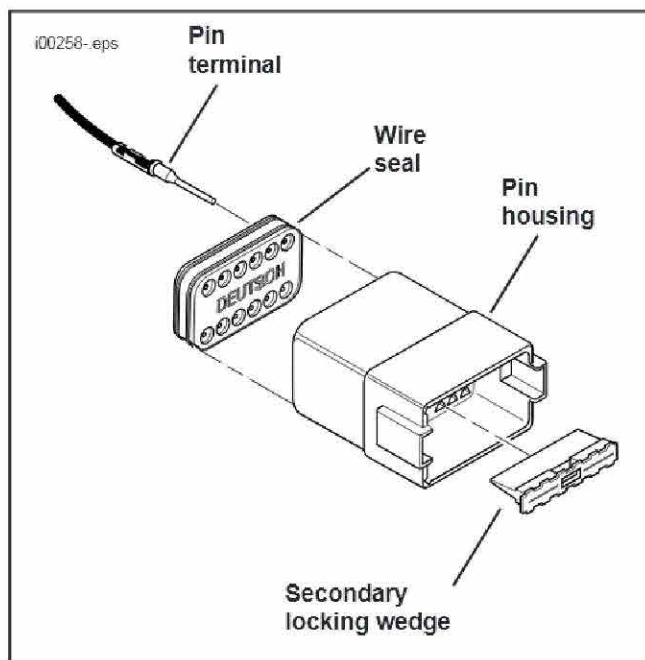

Figure 5. 12-Place Deutsch Connector (Pin Side)
8. See Figure 5. Remove the secondary locking wedge from the pin housing of the black connector. Use a pick or the hooked end of a stiff piece of mechanics wire.
3. With seal pins occupying positions 1, 2 and 12, fit wire seal into back of black pin housing (see Figure 5).
5. See Figure 5. Insert tapered end of secondary locking wedge into pin housing and press down until it snaps in place. The wedge fits in the center groove within the pin housing and holds the terminal latches tightly closed.